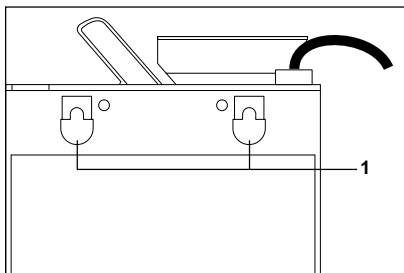

Fig. 5a: Hanging the changer in the vending machine
- 2 Hang the changer in the vending machine using the three mounting holes on the back wall (two at the top 1 and one at the bottom) (see Fig. 5a).